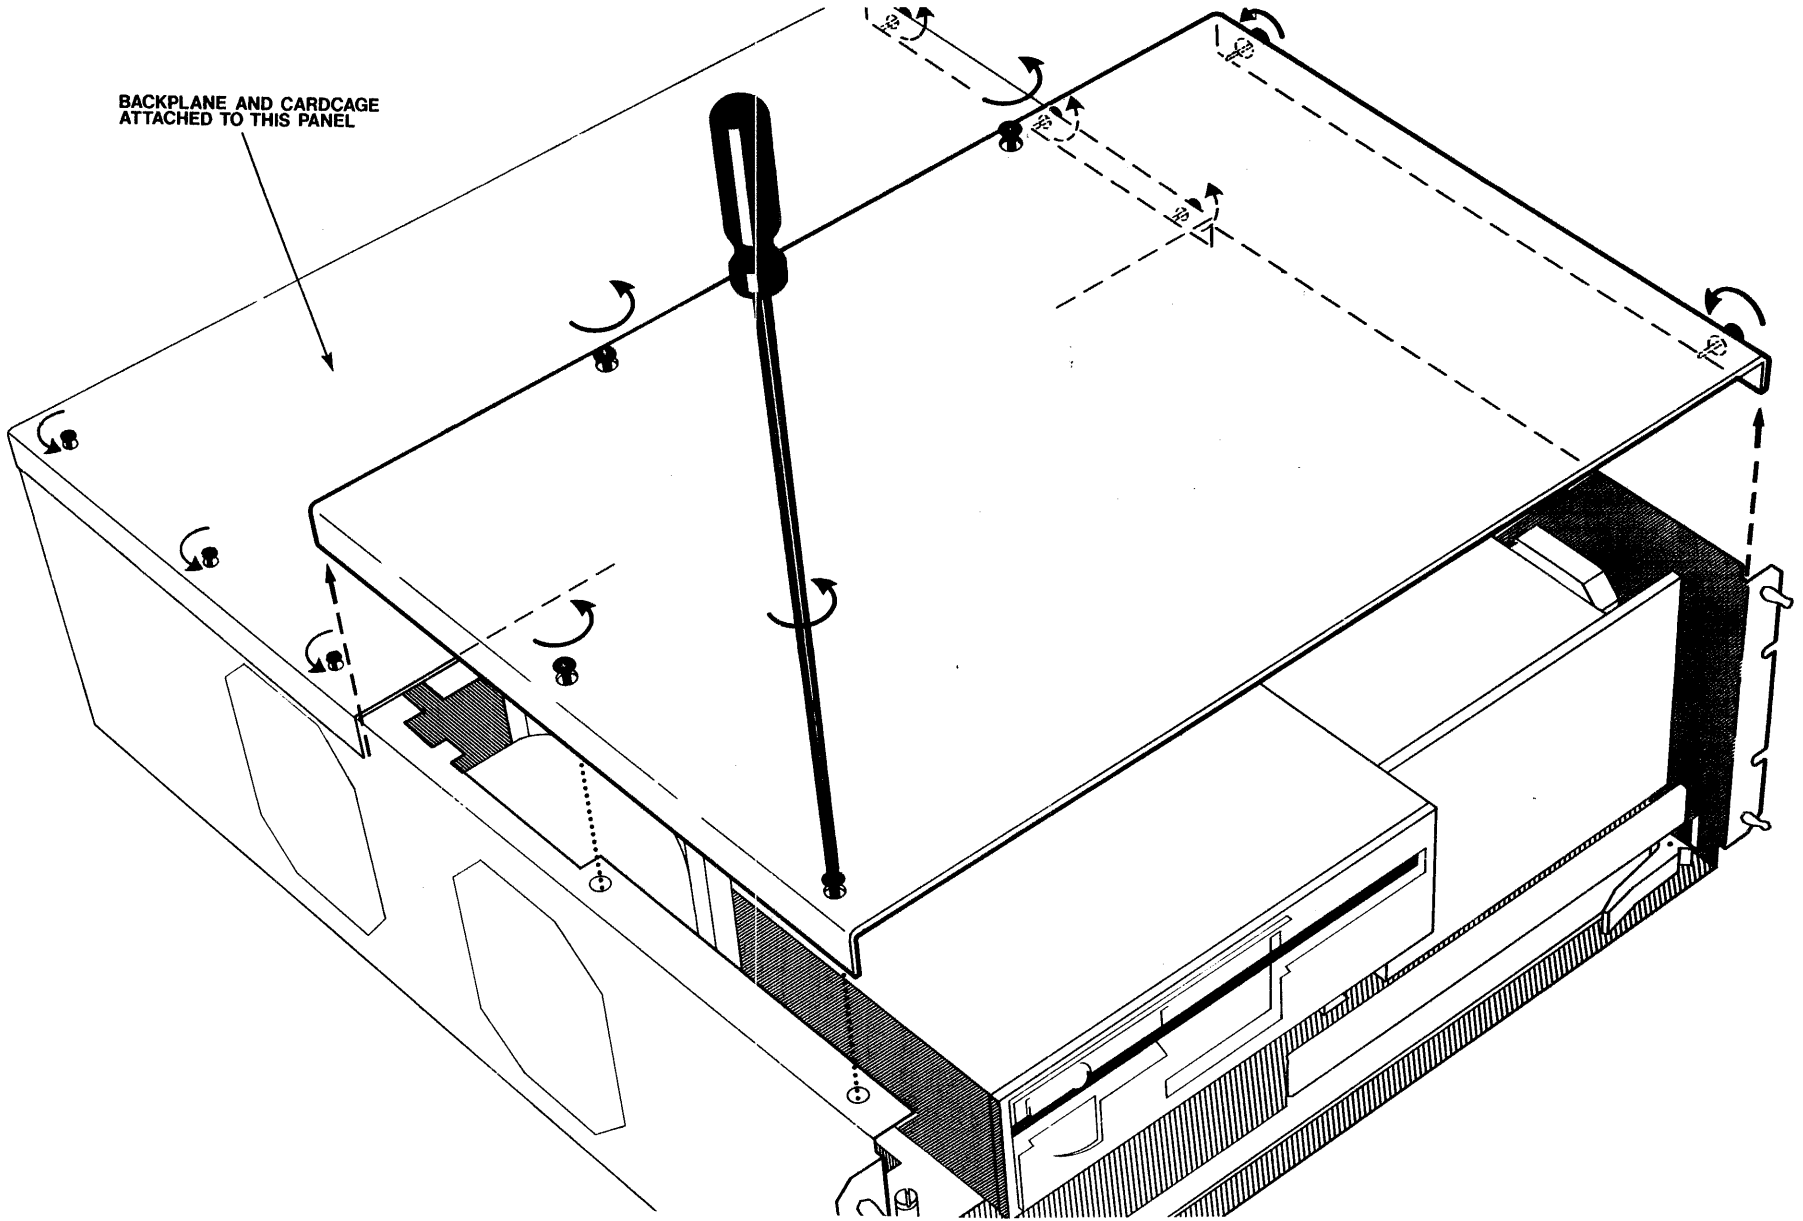

Fig. 10-4 Removal of cover over peripherals
6. TOP COVER (FRONT). Loosen the six captive quarter-turn fasteners holding this cover over the peripheral units. The cover can now be lifted free. See Figure 10-4.
16. Now, as shown in Figure 10-4, release the six quarter-turn fasteners that hold the backplane mounting panel to the chassis. The backplane with its accompanying card cage and modules can then be lifted free. Any module can be removed from the card cage by simply grasping the plastic grip at the top of the card and pulling it directly away from the backplane.